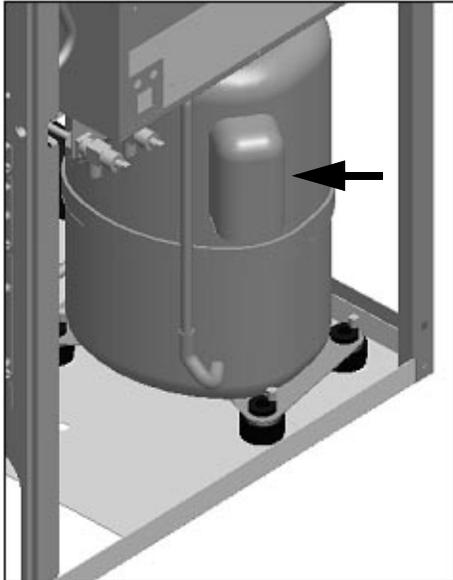
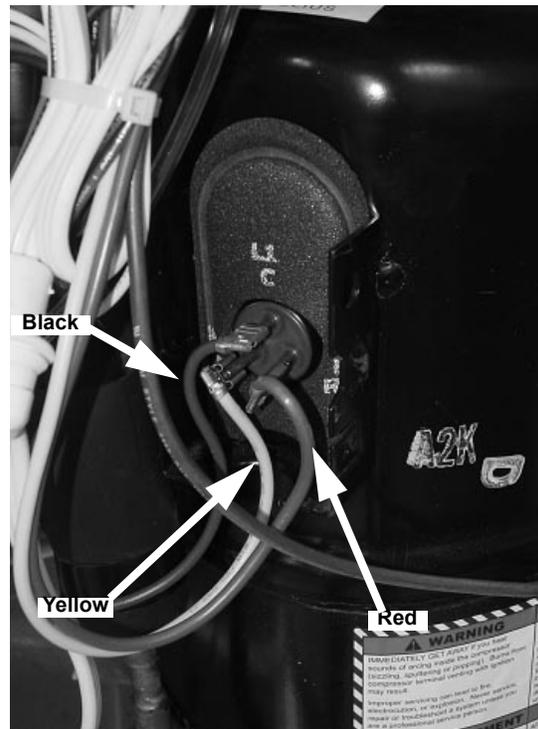

FIGURE 14
FIGURE 15
11. Remove the junction box cover (FIGURE 14) and disconnect all electrical leads to the compressor (FIGURE 15).